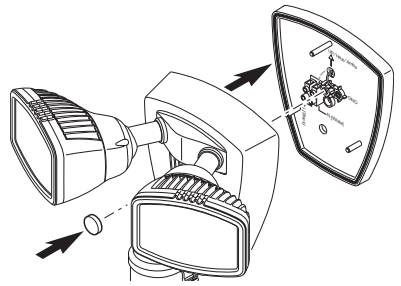

Figure 5
2. Verify the rubber gasket is properly seated around the edge of the 1-2-Ëasy Connect™ (see Figure 5).
4. Tighten the mounting bolt securely being careful not to overtighten (see Figure 5).
5. Push the plastic plug firmly into the mounting bolt hole on the light fixture (see Figure 5).